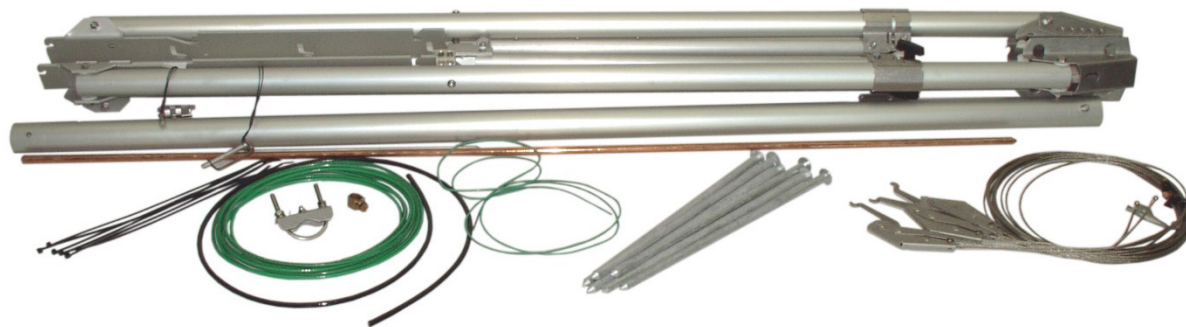

FIGURE 3-1. Tripod components
FIGURE 3-1 shows the tripod components packaged for shipment. The tripod base is packaged with the mast, ground rod, lightning rod, and (6) stakes. The ground rod clamp, lightning rod, and ground wires are enclosed in a bag. The guy kit (optional for the CM110), and tripod tote bag (optional) are packaged separately. The CM115 and CM120 tripods include additional mast sections. A diagram showing how to stow the components inside the tote bag is shown in Appendix A, *Tripod Tote Bag* (p. A-1).